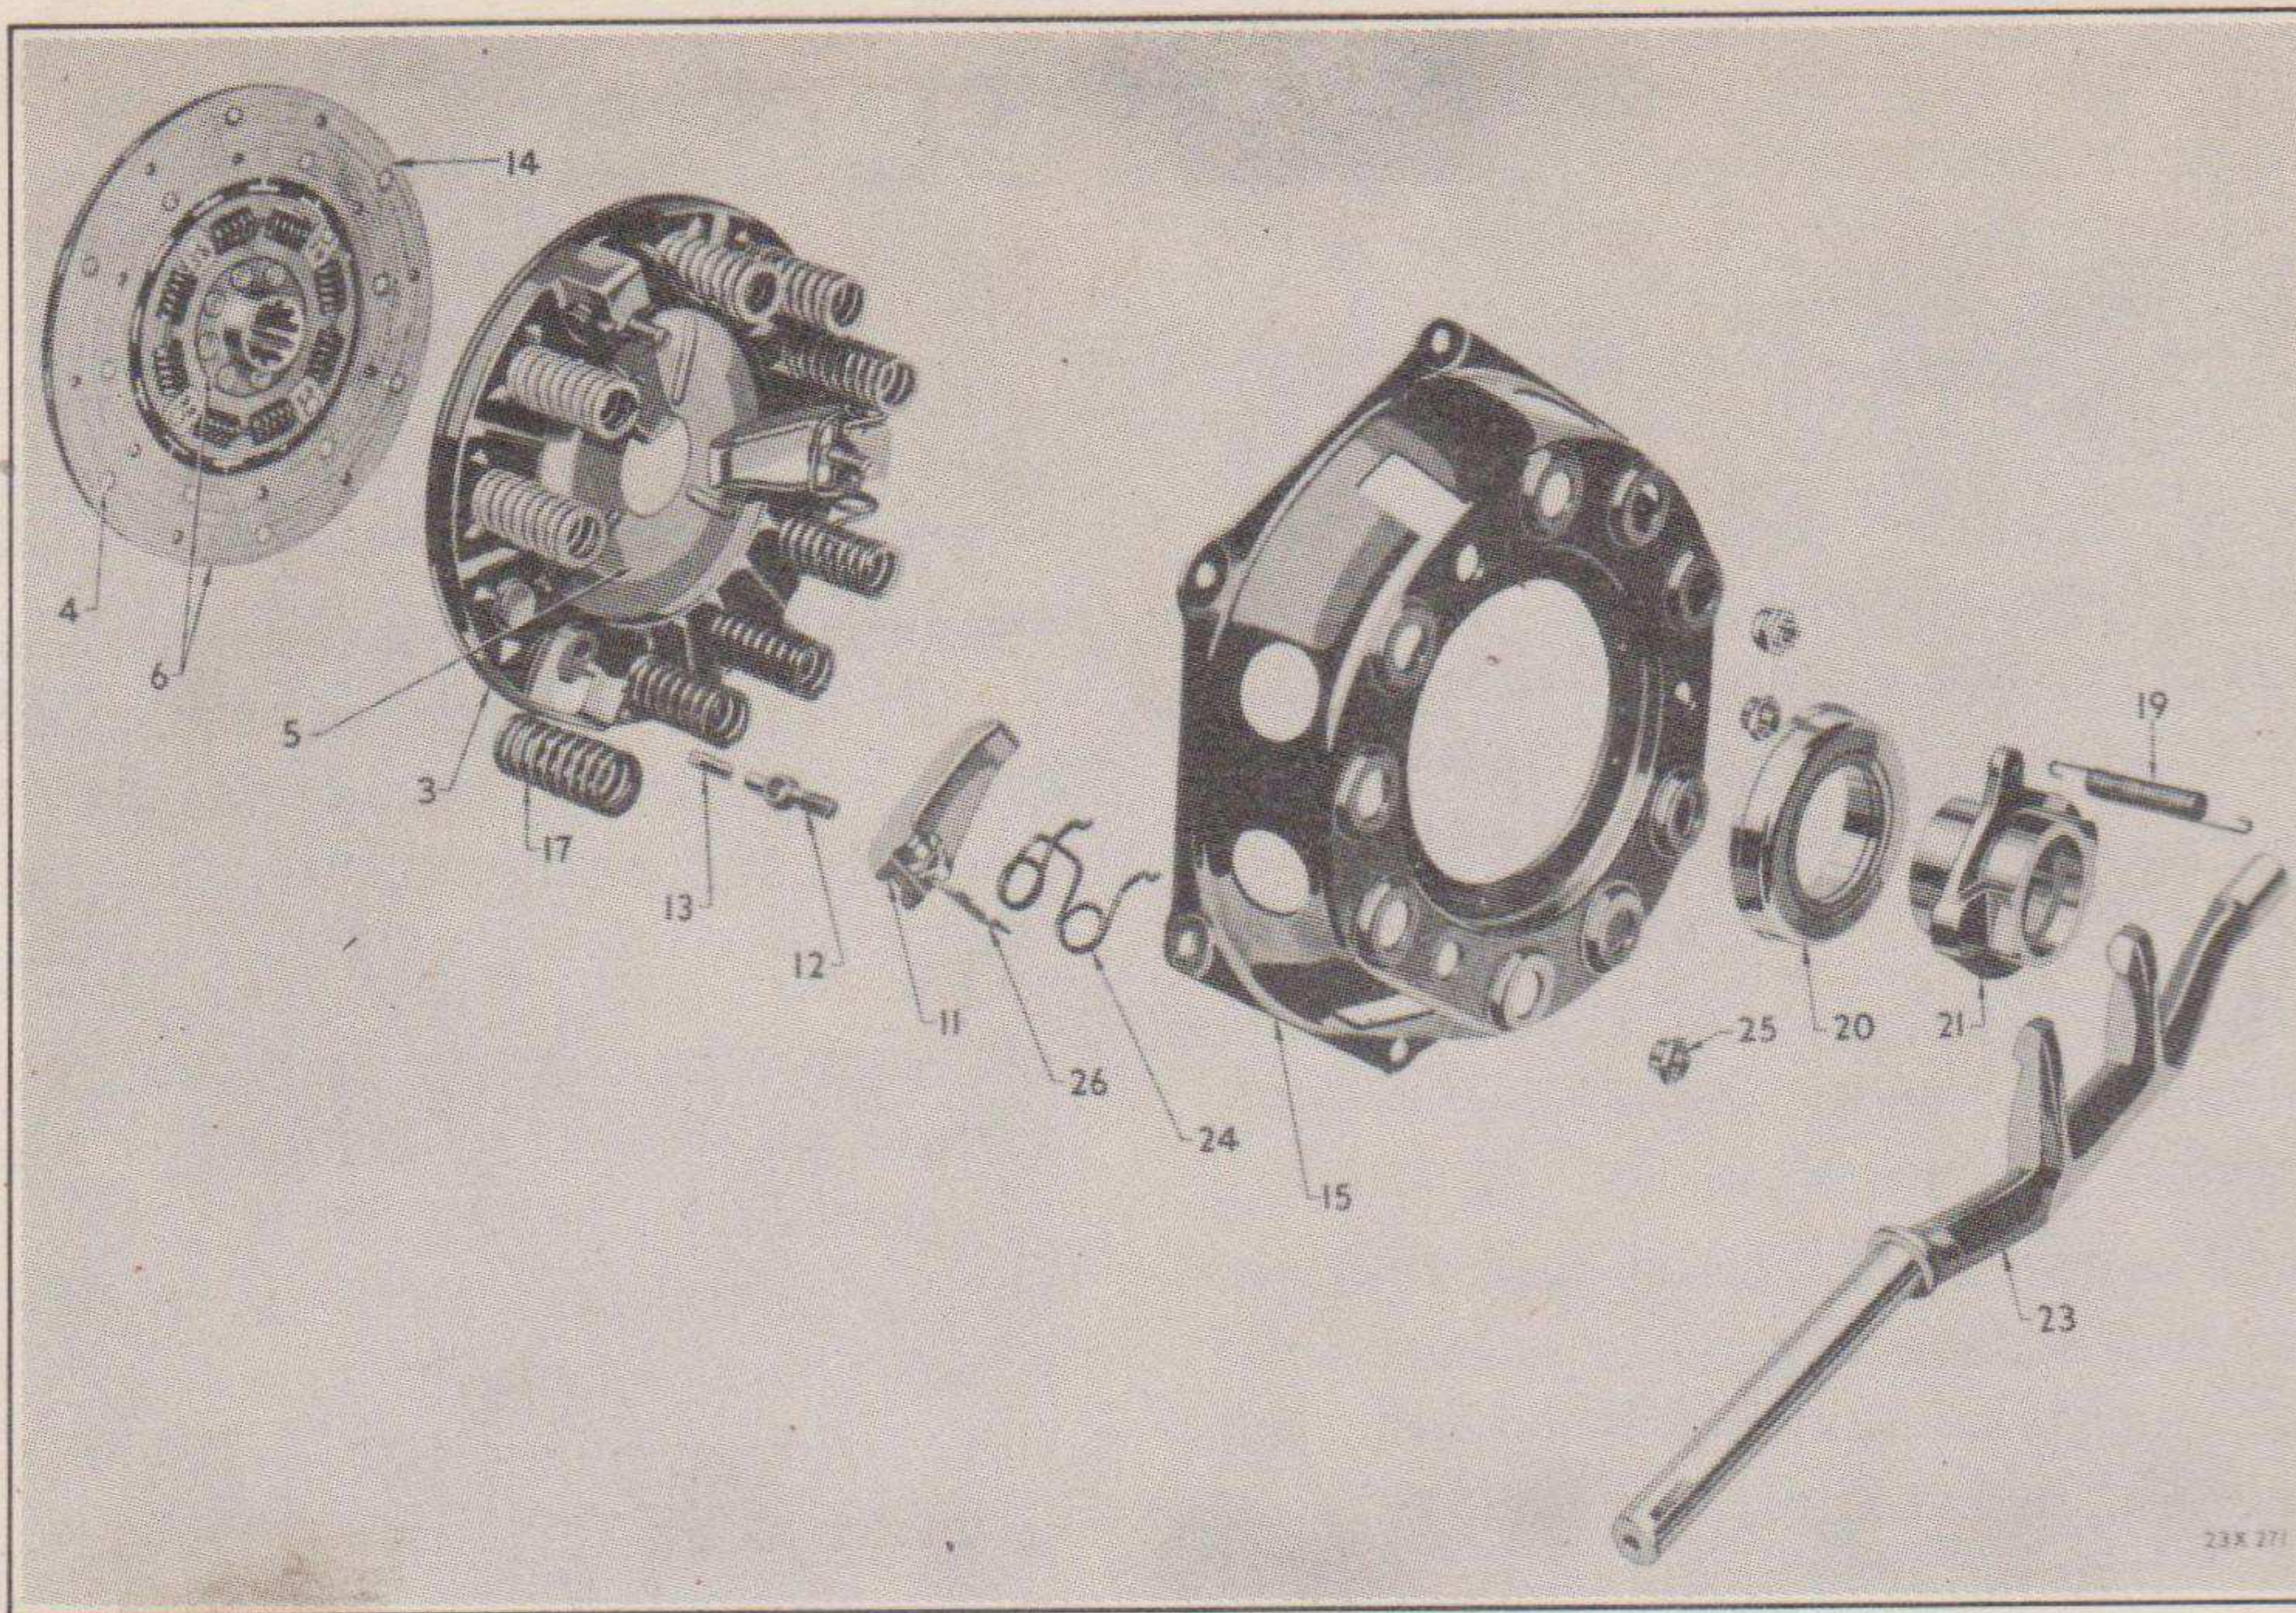

Fig. 89—Clutch (disassembled view)
The clutch is of the single dry-plate type. See Figs. 89 and 90. A steel cover bolted to the flywheel encloses the clutch disc, the pressure plate, pressure springs and fingers.
Figs. 89 and 90—Clutch
- (g) The cover may then be lifted off and all parts will be available for inspection (Fig. 89).